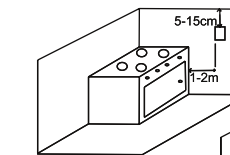

Figure 4
- Methane gas is lighter than air, it will moves higher in the room, install the detector due to the Figure 4.